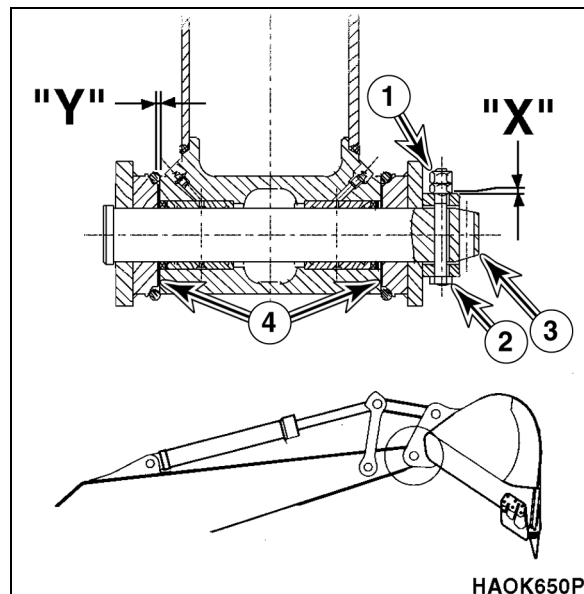

Figure 6
2. Force bucket to one side and check for end play (side-to-side) clearance under O-rings at attachment point. Total clearance should be 1 mm (0.04 in.) between side face of boss and inside edge of ear bushing (Y, Figure 6). Too tight a fit (less than 1 mm (0.04 in.)) can cause excessive wear while too much clearance may produce excessive noise and potentially hazardous slack control.
4. If an adjustment is required, remove two jam nuts (1, Figure 6) and bolt (2) from pin (3). Add or remove shims (4) as required. Use equal amount of shims on each side. Install bolt (2) and two jam nuts (1). Jam nuts must clear boss by 1 - 2 mm (0.04 - 0.08 in.) at point (X).